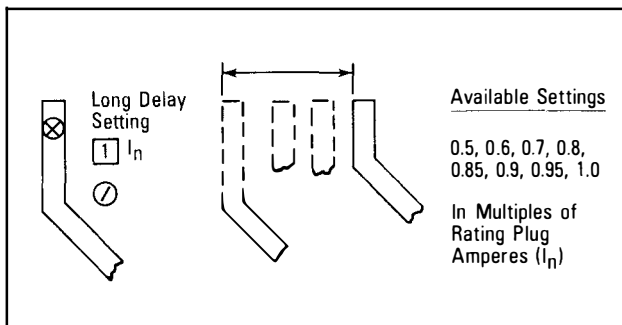

Fig. 4.1 Long Delay Ampere Pickup Settings
The available settings, along with the illustrated effect of changing the settings, are given in Figs. 4.1 through 4.7.
Eight (8) available settings, as illustrated in Fig. 4.1, range from 0.5 to 1.0 (I_N). Each setting is expressed as a multiple of the maximum ampere rating (I_N) of the installed rating plug.